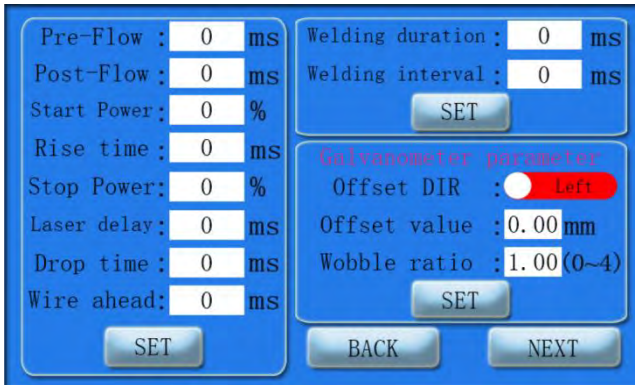
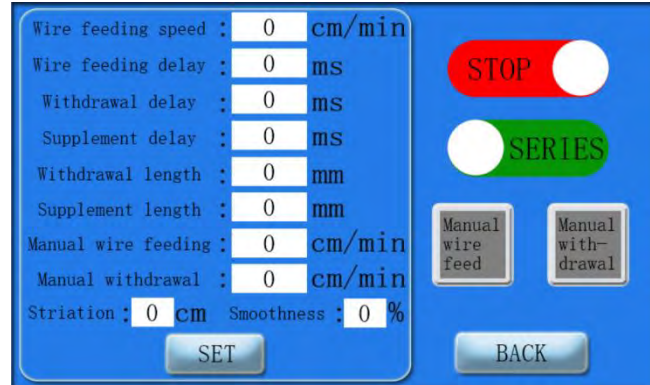

Figure 5.3 Auxiliary Interface
Figure 5.4 WireFeeder Interface
(1) There is no red light or the position of the red light has a large deviation and cannot be emitted normally from the copper nozzle. You need to contact after-sales personnel.
(2) The left and right offset of the red light position is relatively small and can be adjusted through the touch screen. Enter the auxiliary parameter interface from the main interface and modify the corresponding parameters from the galvanometer parameter correction section ,until the red light emits from the middle of the copper mouth, as shown in Figure 5.3.
- (6) Click on the Auxiliary and WireFeeder on the touch screen in turn, set the appropriate parameters, and click Set to confirm (As shown in Figure 5.3 and Figure 5.4).
- (7) Select the working mode. There are two working modes, continuous and spot welding mode.
- (8) Click Set and it will prompt that the setting is successful.
- (9) Clamp the clamp on the workpiece, touch the welding gun to the workpiece, and check the red light again. The red light is displayed in the center of the copper nozzle.
- (10) Click the laser switch button on the touch screen.
- (11) Press the welding gun switch, the laser will shoot out and start welding.
(2) Set the spot welding parameters in the auxiliary parameter interface (Figure 5.3), set the spot welding duration to 150ms, and the spot welding interval to 40ms.